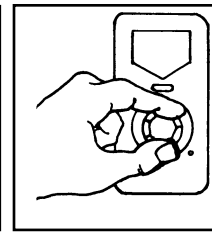

Figure 6
4. Set thermostat knob to OFF position and then remove knob by lifting knob from shaft. (See Figure 6.)